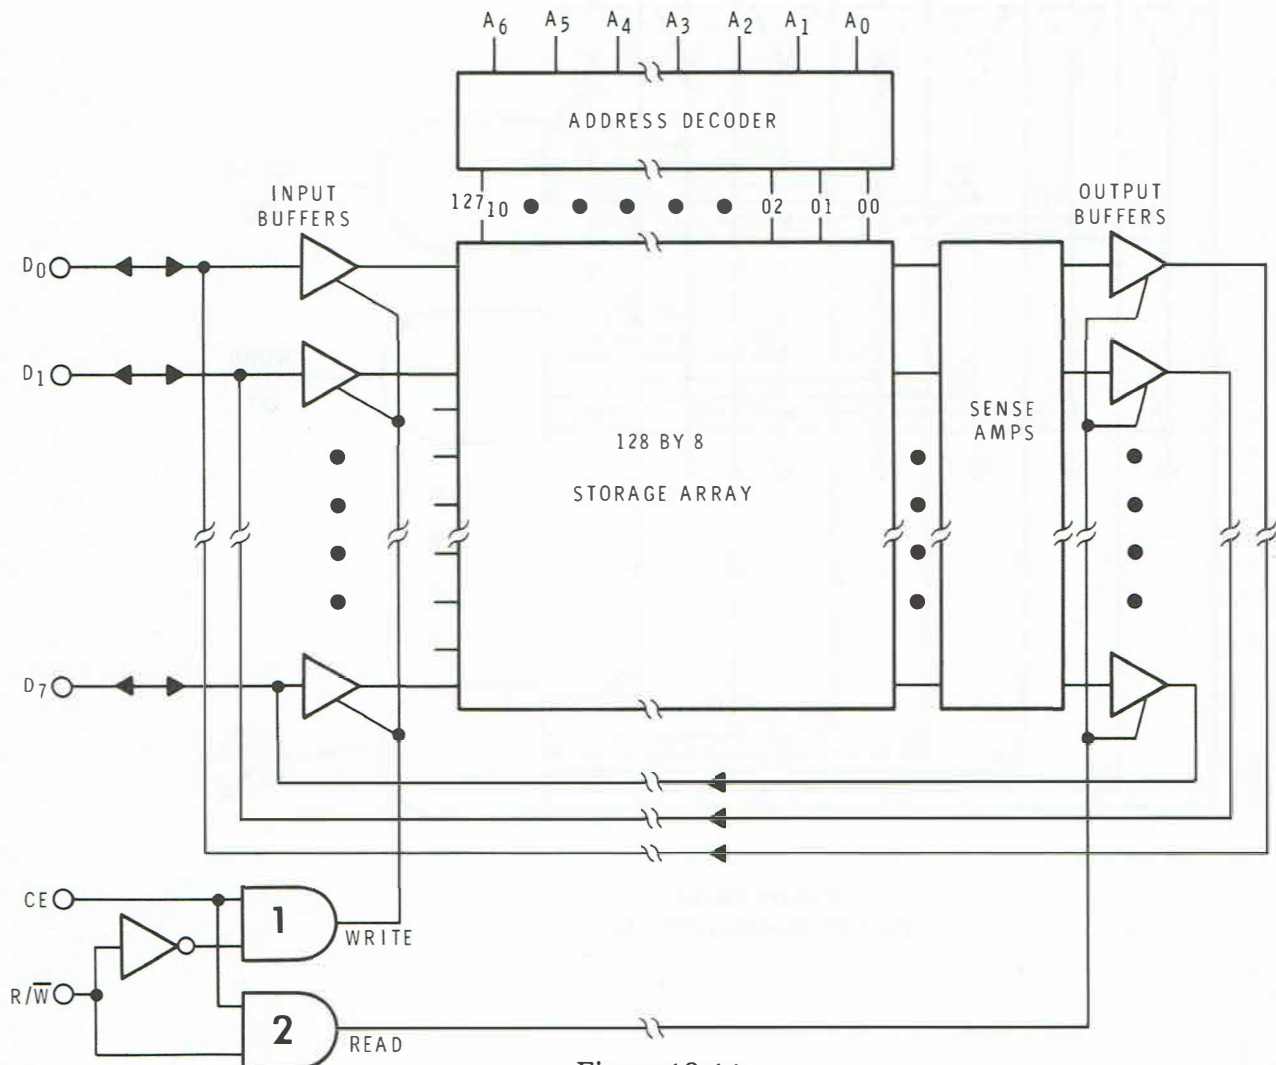

Figure 10-14
Figure 10-14 shows a simplified arrangement of a 128-word RAM using bidirectional data lines. The data lines are shown on the left. The 3-state input buffers are enabled by a high signal on the WRITE line. This line is controlled by the  $R/\overline{W}$  and the chip enable (CE) signal. As you will see, the WRITE line is high when the MPU is writing data into memory. This enables the input buffers and allows data to be written into the selected address. The output buffers are disabled during this period by the low signal on the READ line.
As Figure 10-14 illustrates, the READ and WRITE signals are controlled by the chip enable (CE) signal and the  $R/\overline{W}$  line. The CE input line is switched high when this particular memory chip is selected. If this line is low, gates 1 and 2 are disabled. This causes both the READ and WRITE signals to go low, disabling both the input and output buffers. In effect, it disconnects the chip from the data bus.